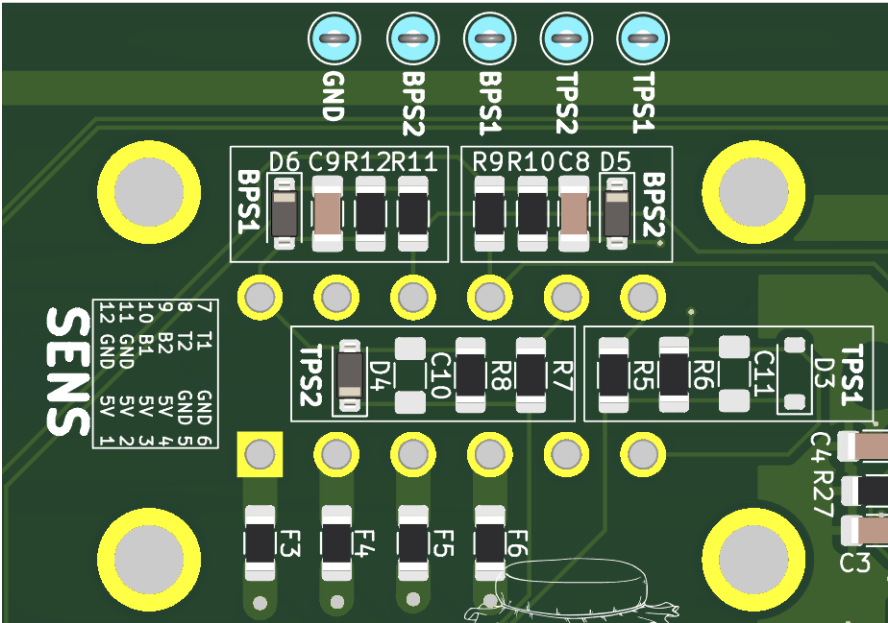

Figure 3: PEN V2 effective silkscreen labelling.
- To improve **serviceability**, provide helpful information on the silkscreen to reduce ambiguity and create intuitive component recognition by displaying pinouts, functionality and proper test point names (*this will also aid commissioning and manufacture*). Figure 3 demonstrates effective use of silkscreen reducing the need to refer to KiCad and sift through other documentation to service the board. To avoid crowding and obscuring the silkscreen, check the 3D viewer often and examine the clarity from the perspective of another team member.